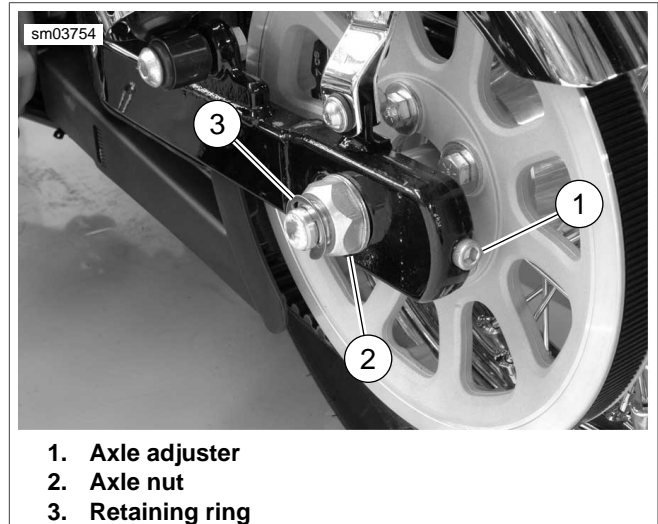

Figure 2-10. Axle Adjusters (Left Side Shown)
4. See Figure 2-10. Remove retaining ring (3), axle nut (2), and washer from left side of axle.
8. See Figure 2-10. Install washer and axle nut (2) on left side of axle.
- b. Install retaining ring (1).